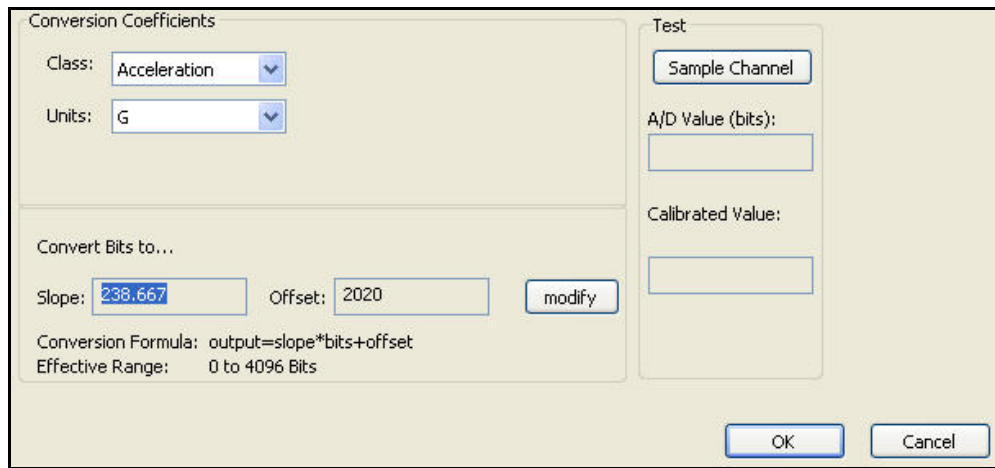

Figure 1
- Note down the Slope and Offset for channel 1. Our example in Figure 1 shows a Slope of 238.667 and an Offset of 2020.